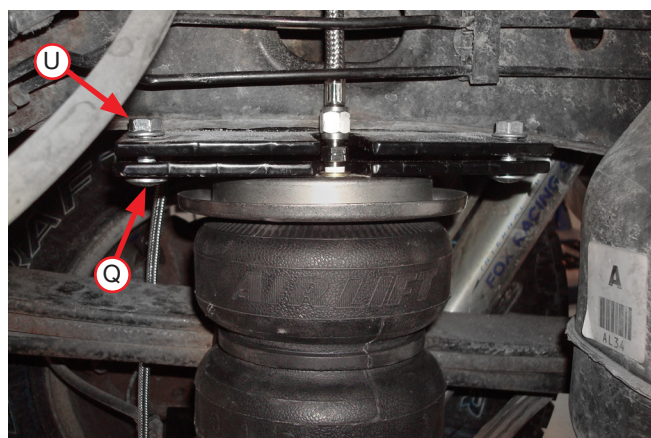

Fig. 19
2. While lifting up on the assemblies, insert two 3/8" carriage bolts (Q) up through the air spring bracket and frame bracket (Fig. 19).